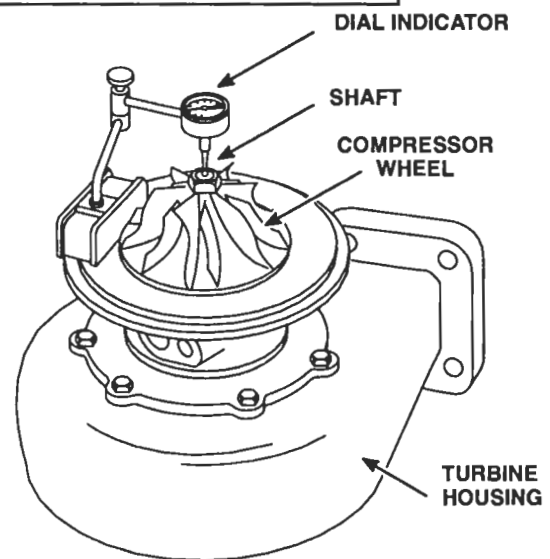

Figure 35. Checking Shaft End Play
- Clamp the turbine housing and center housing and rotating assembly in a bench vise equipped with soft jaws (Figure 35.)